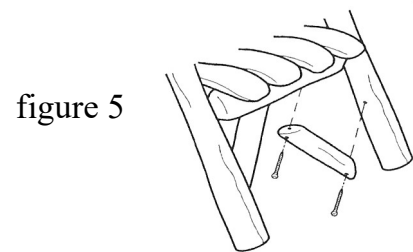

figure 5
- STEP 5 Tilt chair back and screw a brace on each side of front leg to chair bottom as shown in figure 5.